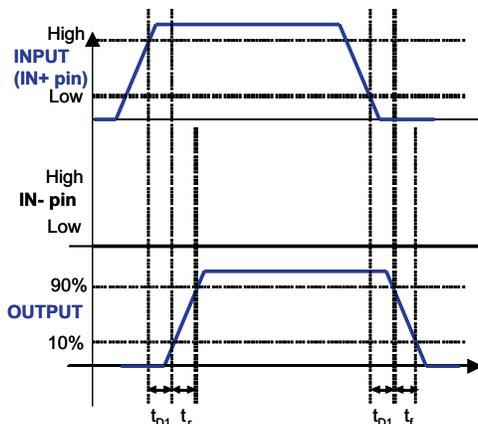
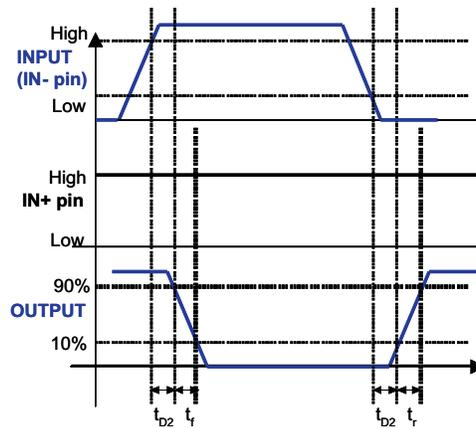
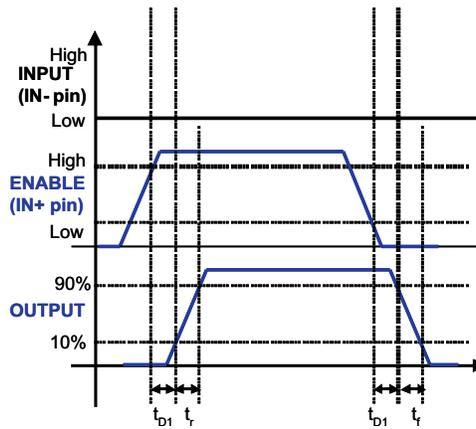

Figure 1. Non-Inverting Configuration (PWM Input to IN+ pin (IN- pin tied to GND), Output represents OUTH and OUTL pins tied together in the UCC27511)
Figure 2. Inverting Configuration
Figure 3. Enable and Disable Function Using IN+ Pin
(3) See timing diagrams in Figure 1, Figure 2, Figure 3 and Figure 4.